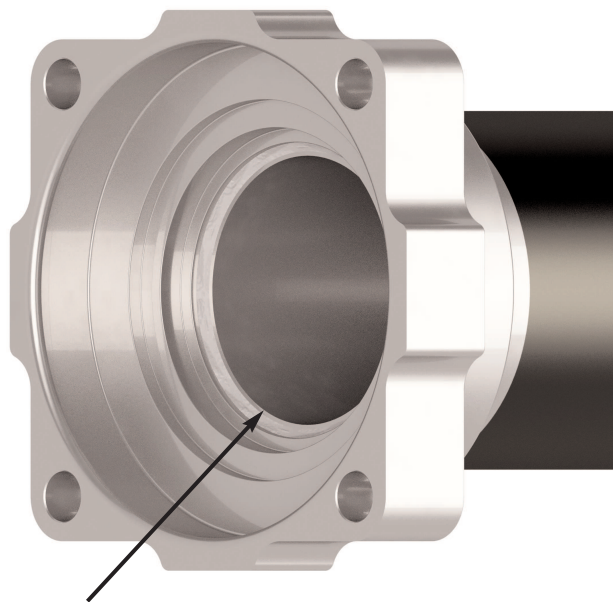

Figure 3: Inside Weld Area
- 7) Weld around the inside and outside of the tube. See Figures 3 and 4. Be careful to not get weld splatter in seal bore or shoulder.